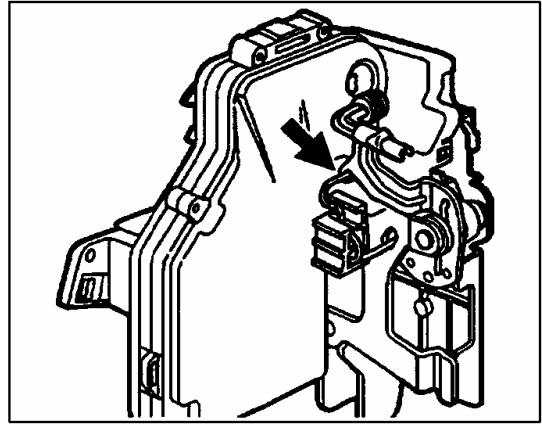

Figure 4
- Engage the actuating lever at its basic position (Fig. 4) on the door lock. To do this, engage the spring (Fig. 4, arrow) into the hook of the actuating lever using a slotted screwdriver or flat-nosed pliers.